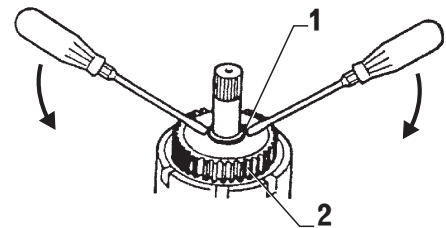

FIG. 8-1b
- Lift butting rings (item 1, Fig. 8-1b) off using two screwdrivers.
- Pull gear (item 2, Fig. 8-1b) and needle bearings off.